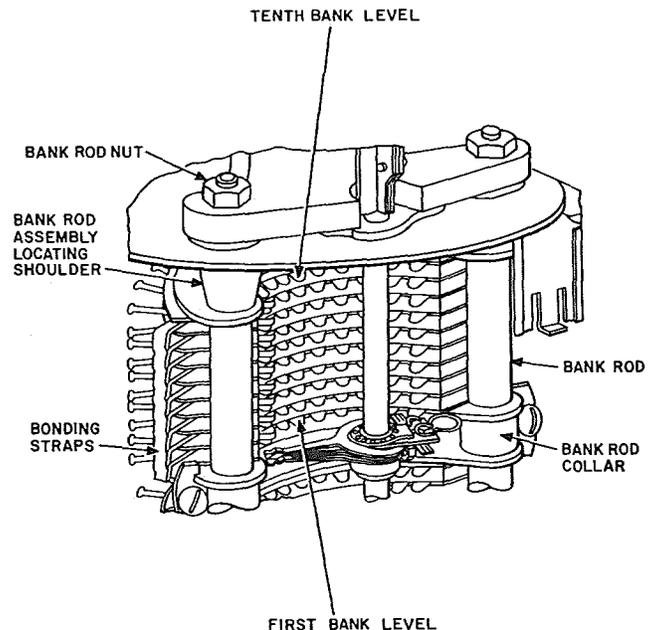

Fig. 3—Alignment of Wipers with the Bank Levels
2.10 Alignment of Wipers With Bank Levels: Fig. 3